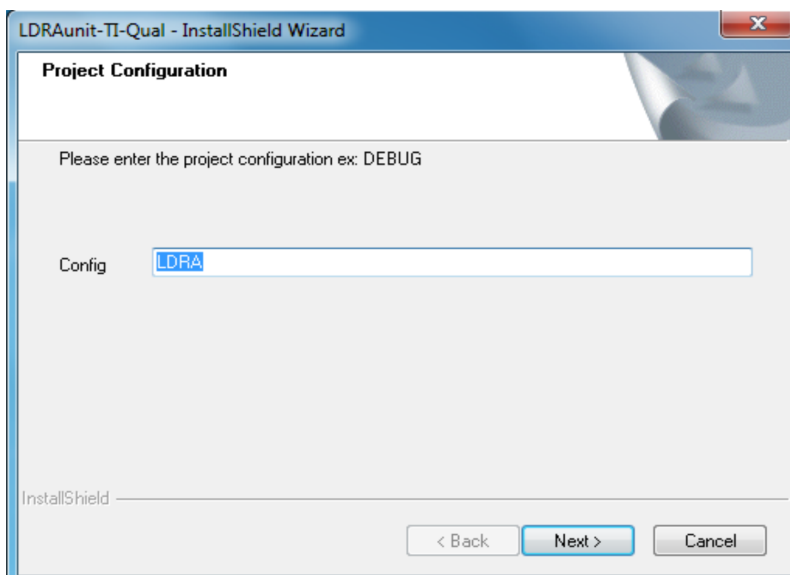

Figure 6. Project Configuration
5. LDRA unit – project configuration (see Figure 6).